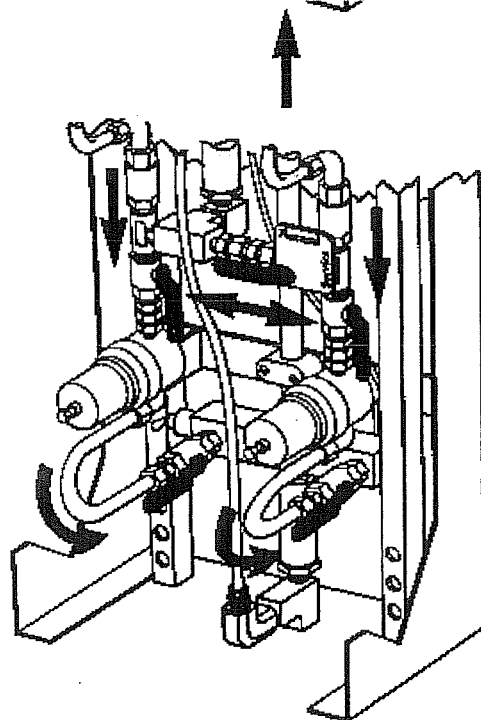

Figure 4-9
5. Ensure that all line regulator valves are open on both sides of the manifold. (Figure 4-9)